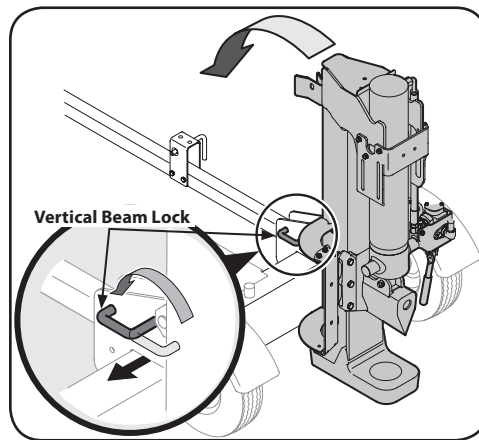

Figure 3-3
12. Pull out the vertical beam lock, rotate it back, and pivot the beam to the horizontal position until it locks being sure to avoid any possible pinch points. See Figure 3-3.